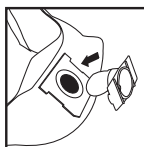

FIGURE 28
51. Position the inlet deflector with the opening facing the left or the right side of the filter bag. Slide the filter bag collar over the inlet deflector, matching the notches of the bag collar to the tabs on the inlet deflector. Bag will only fit properly one way. **FIGURE 28.**